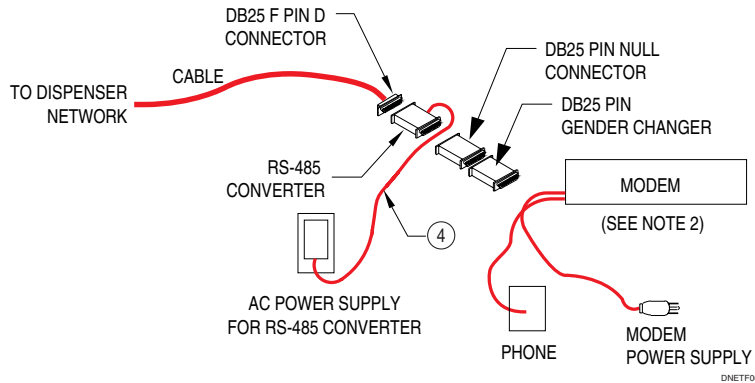

Figure 6. Network to Remote PC Connection Using Converter and Modem
1. Refer to **Figure 6**. Create the dispenser network as explained above, but rather than connecting the RS-232 side of the RS-485 converter to the PC's serial port, connect it to a 25-pin Null Modem and then to a 25-pin male-to-male gender changer (both items are available at any electronics store).